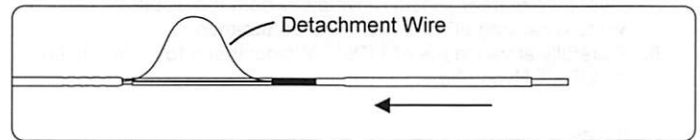

**Figure 12**
37. While stabilising the eCLIPs™ Hypotube, press the detachment handle (as shown in Figure 12) in a smooth and continuous motion until the handle reaches the end of travel.